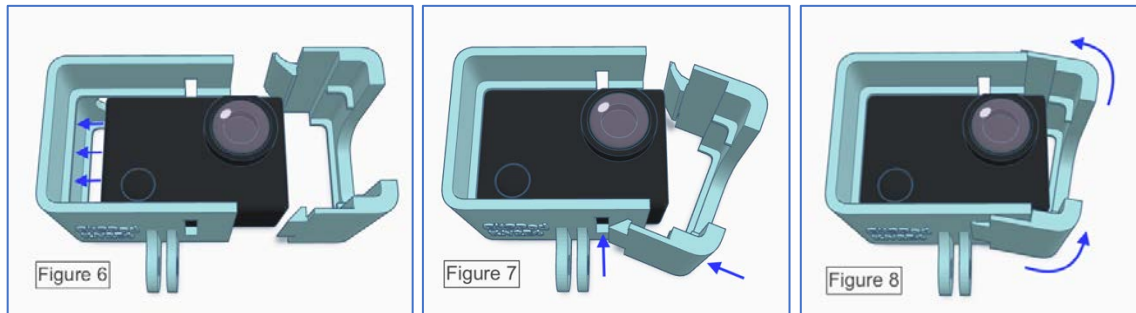

Figure 6 - Install Camera pt. 1 Figure 7 - Install Camera pt. 2 Figure 8 - Install Camera pt. 3
Part 3 – Install the Camera in the Camera Mount (Figures 6 – 9)
1. Slide the camera into the body of the mount (as shown). The shutter button on top of the camera should align with the round hole in the top of the mount (not visible in image) (Figure 6).